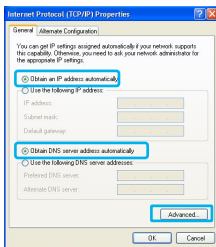

Figure 4
5. At the <Internet Protocol (TCP/IP) Properties> dialog box, click the **Obtain an IP address automatically** and the **Obtain DNS server address automatically**. Then click **Advanced** to check the TCP/IP settings for accuracy. (Figure 4)